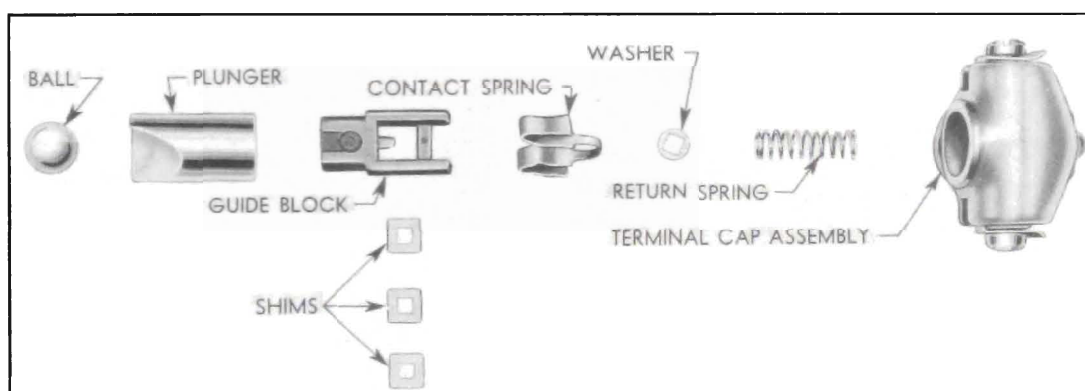

Figure 10-38—Carter Accelerator Vacuum Switch Disassembled
1. Disconnect wires from terminals. Hold down on switch terminal cap while removing hold down clip. Remove terminal cap and return spring, then lift out switch guide block with contact spring and shims. Do not lose timing shims and the spring washer on contact spring. See figure 10-38.